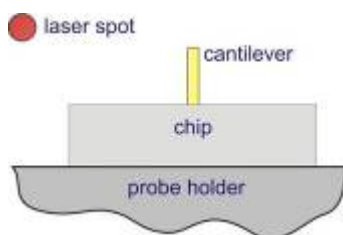

Fig. 2-42
- a. **"Undistorted"** image on paper. (Fig. 2-42) This means that the laser beam is off the cantilever or the cantilever chip;